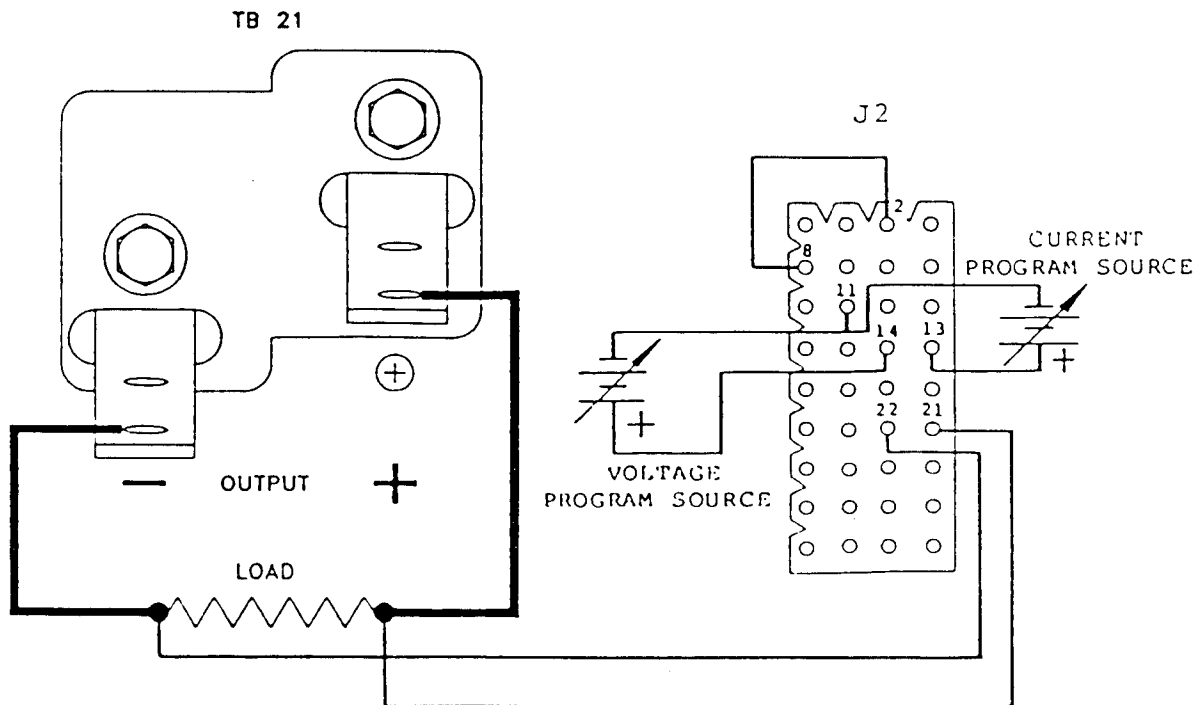

Figure 3.7 External Signal Programming
**EXCEPTION:** When Step C calls for connection of a resistor across the programming terminals on J2, instead connect the signal source. See Figure 3.7 for connections and observe the program signal polarity.